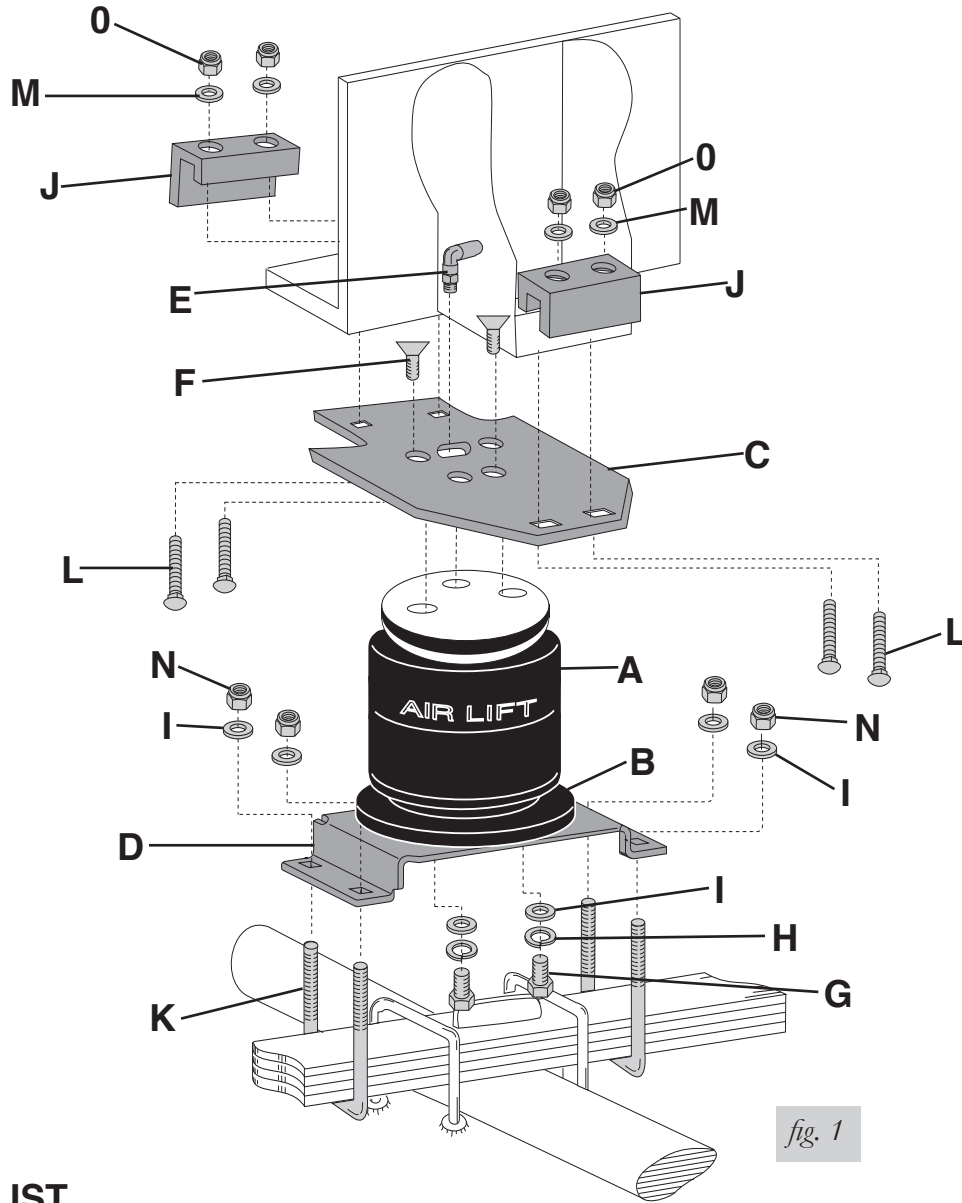

fig. 1
1. Set the assembly onto the leaf spring. Index the fitting into the existing hole in the frame flange, forward of the axle (see Fig.1 & Fig. 6a).
6. Install the U-bolts under the leaf spring, through the lower bracket and cap with a 3/8" flat washer and nylon lock nut. Torque the U-bolts evenly to 16 lb.-ft. (22Nm). Trim the excessive length of the U-bolts close to the nylon lock nut (see Figs. 1 & 8). Repeat for the opposite side.